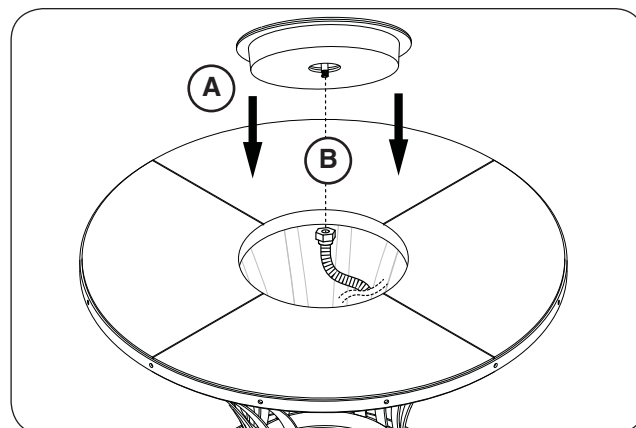

Fig. 22-4 Place burner and connect flex
6. Drop the burner assembly into the opening in the center of the firetable top (see Fig. 22-4, A).
7. Locate the flex connector (marked OUT) that is coming off the valve assembly. Route it to the connection found on the underside of the burner assembly and connect. Tighten securely. See Fig. 22-4, B.